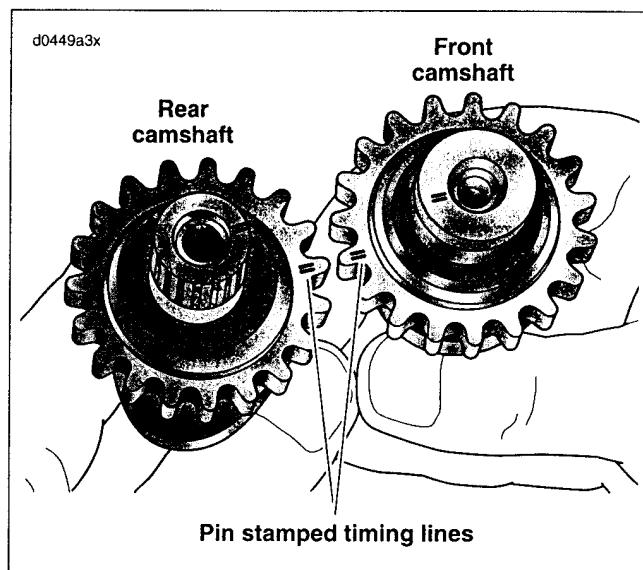

Figure 3-137. Camshaft Timing Lines
9. See Figure 3-137. Align pin stamped timing lines on teeth of secondary cam sprockets (outboard faces). Using a colored marker, carefully mark the timing line locations on the inboard side of the sprocket teeth. These marks are needed to observe proper orientation of the camshafts when they are pressed into the bearings.